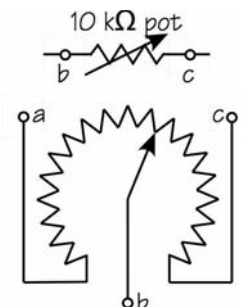

Fig. 2-What's a pot?
- The pot, shown in Fig. 2, is a variable resistance that will let us control the current during our measurements. Note in Fig. 2 that the b lead of the pot is connected to the moving contact so that it moves around the resistance as the screw is turned. If the screw is fully counter-clockwise, the resistance between a and b is 0 and the resistance between b and c is 10 k Ω .
- Insert the pot into the board in the orientation shown in Fig. 2. (The leads form a triangle as shown.) The three leads